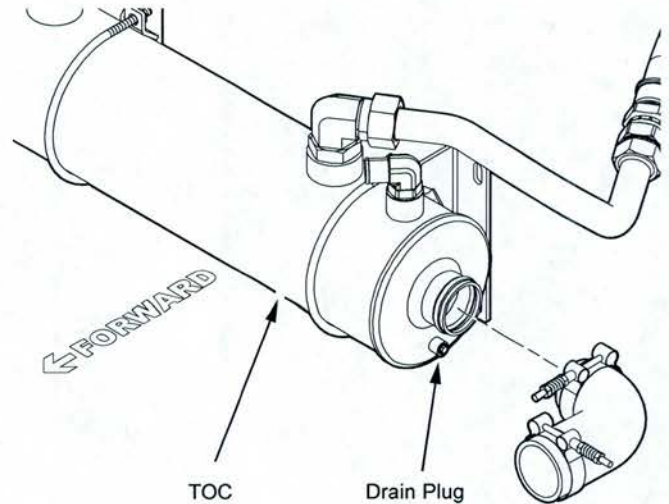

Figure 3
5. Using a 15-gallon (57-liter) drain pan, drain the cooling system by opening the drain valve on the radiator and the drain valve on the bottom of the engine oil cooler housing. Remove the TOC drain plug to completely drain the TOC (see Figure 3).
8. Position a 5-gallon (19-liter) drain pan beneath the transmission fluid pipe fittings. Disconnect the 2 transmission fluid pipes from the fittings and remove the fittings from the TOC. Remove and discard the O-rings from the fittings and place the fittings aside for reinstallation. Discard the captured transmission fluid (see Figure 3).